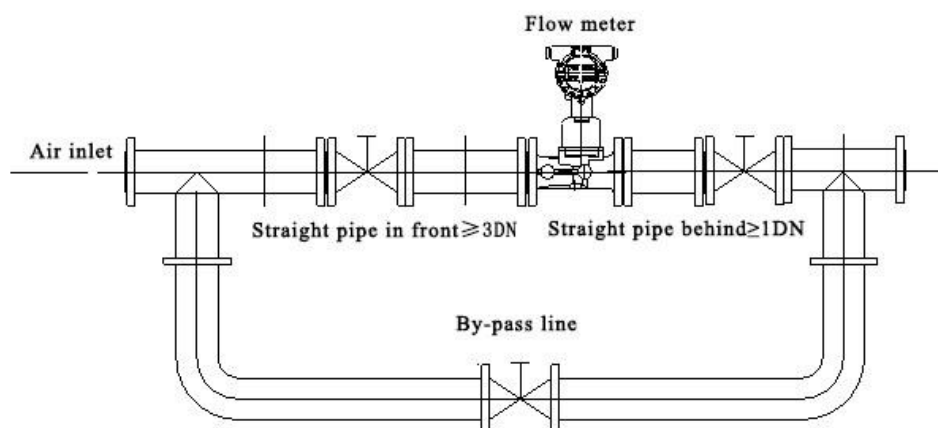

Figure 6 Installation diagram of bypass pipeline
10. In order not to affect the normal flow of fluid and facilitate maintenance, it is required to install the bypass pipeline as shown in Figure 6, and ensure that the front is  $\geq 3DN$  and the rear is  $\geq 1DN$  straight pipe section.